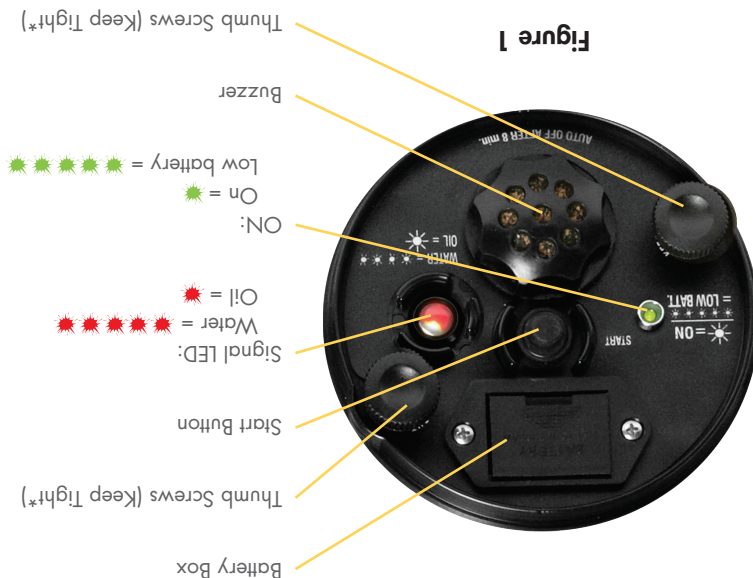

Figure 1
Switch the **H.OIL/Sm.OIL** on by pushing the start button in the center of the electronic panel. The green LED indicates that the unit is ready for use. If the LED does not light, then replace the battery. The green LED will stay on for approximately 8 minutes. Every time the start button is pressed the 8 minute timer will reset. When the 9 volt battery is almost drained, the green LED will start to blink when the unit is signalling. The battery should be replaced as soon as possible (see Figure 1).
Before using the **H.OIL/Sm.OIL**, ensure the two panel retaining thumb screws (nuts) are tight* and the ground lead is connected to a grounding source. Switch the unit on by pushing the start button in the center of the electronic panel (see Figure 1). The unit will now be active for 8 minutes (the unit switches itself off automatically). The green LED indicates that the unit is ready for use. If the green LED switches off while the meter is being used, push the center start button again to re-start the unit.
If the electronic panel is removed first, the reel and tape can be washed gently with a power washer. Remove the retaining thumb screws (nuts) (see Figure 1) to release the panel*. Take care not to lose the thumb screws as the unit will not work without them*.
- Make sure retaining thumb screws are tight (**H.OIL**) (Figure 1).